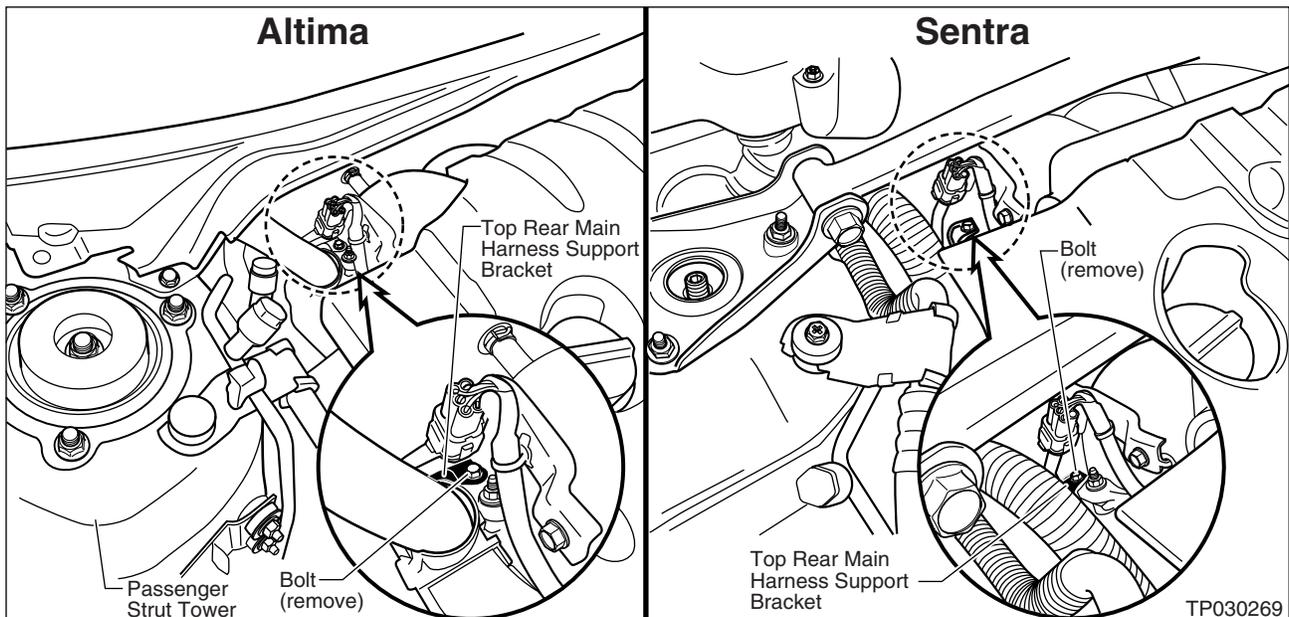

Figure H10
- Remove the bolt that secures the Top Rear Main Harness Support Bracket to the engine before engine removal (see Figure H10).